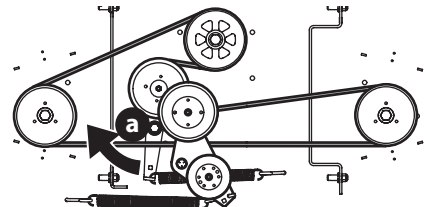

Figure 60
- Using a 1/2" drive insert the end into the 1/2" square opening in the deck idler assembly (a) and rotate the deck idler assembly (a) clockwise (Figure 60). While holding the deck idler assembly (a), loosen the deck belt from the pulley and slide the belt away from the pulley.
- Route the new belt (Figure 60). Then reinstall the deck and PTO belt.